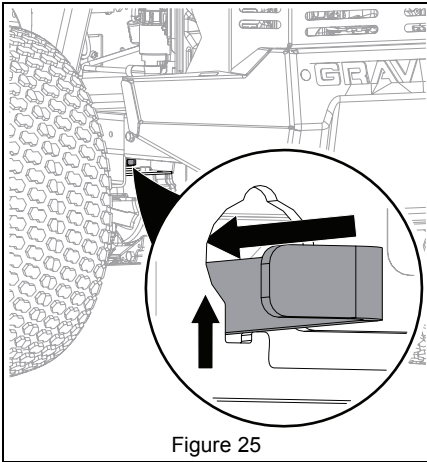

Figure 25
6. Lift bypass levers up slightly and push into operating position. See Figure 25.